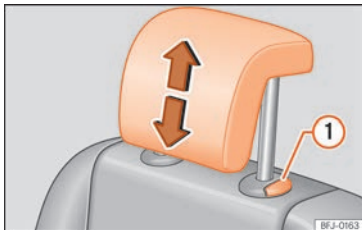

Fig. 110 Removal of the rear headrests: second row of seats.
- Remove the headrest completely while pressing button »» » **Fig. 110** ①.